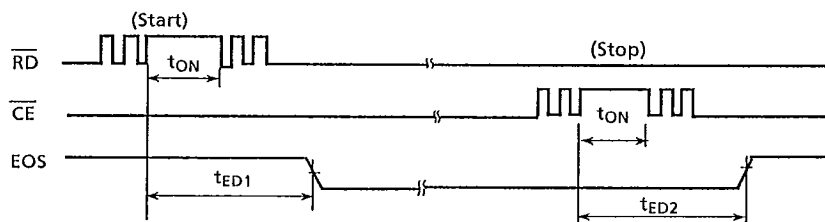

Fig.5.10 Timing of EOS at manual control
As shown in Fig.5.10, ①using \overline{RD} pulse, read status from TC8831F and check BUSY flag ②If not busy state, after setting up command in D0~D3, write a command using \overline{WR} pulse. In case of such 3 nibble commands as LABEL, ③after rechecking BUSY flag by \overline{RD} pulse, ④write the 2nd and 3rd nibbles.